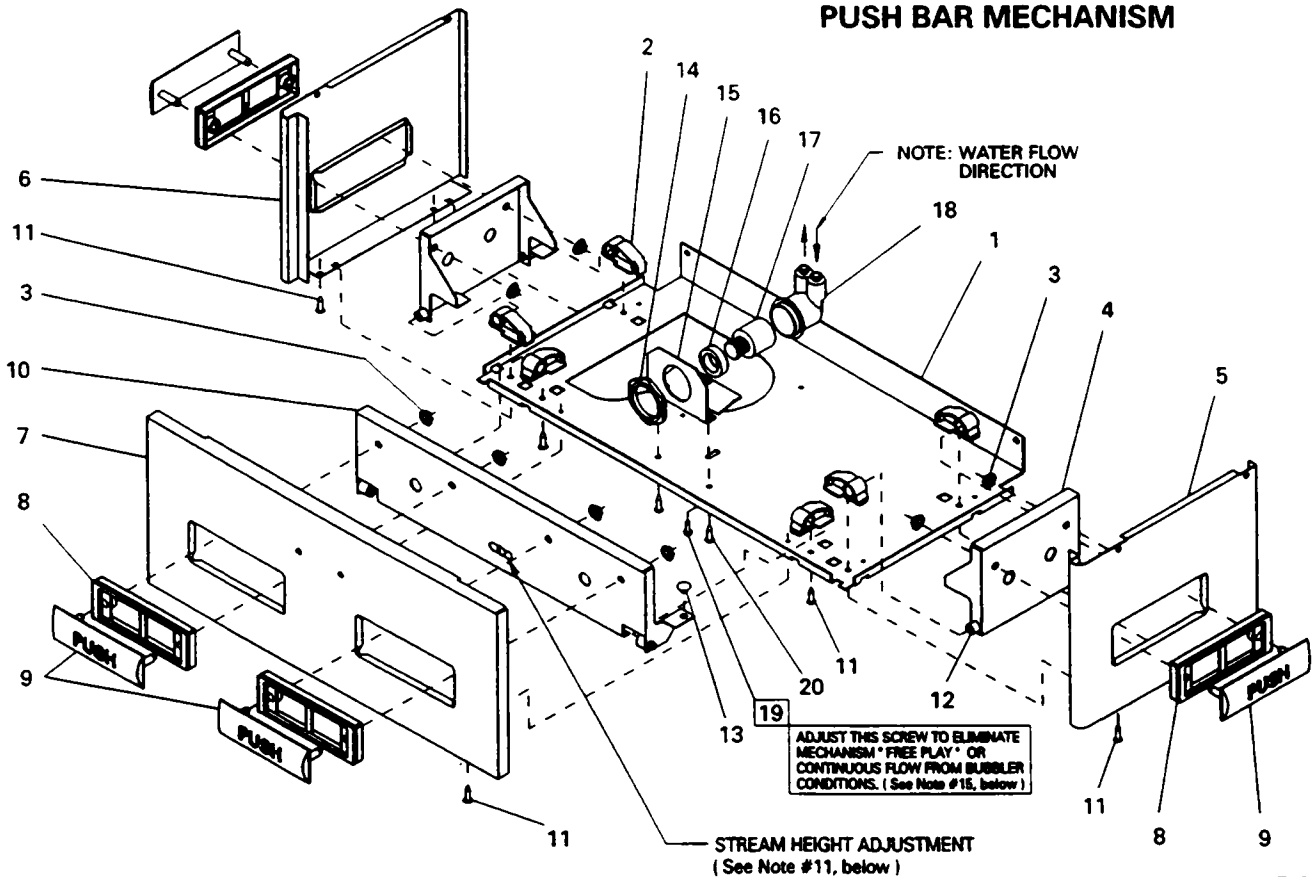
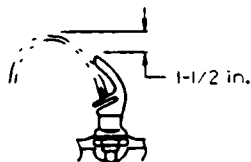

FIG. 4
FIG. 5
- 11). Stream height is factory set at 45 - 50 PSI. If supply pressure varies greatly from this, readjust stream height to approximately 1-1/2" above the bubbler guard by turning adjustment screw, accessible by removing front push panel, item No. 7 (see Fig. 4 and Fig. 5).